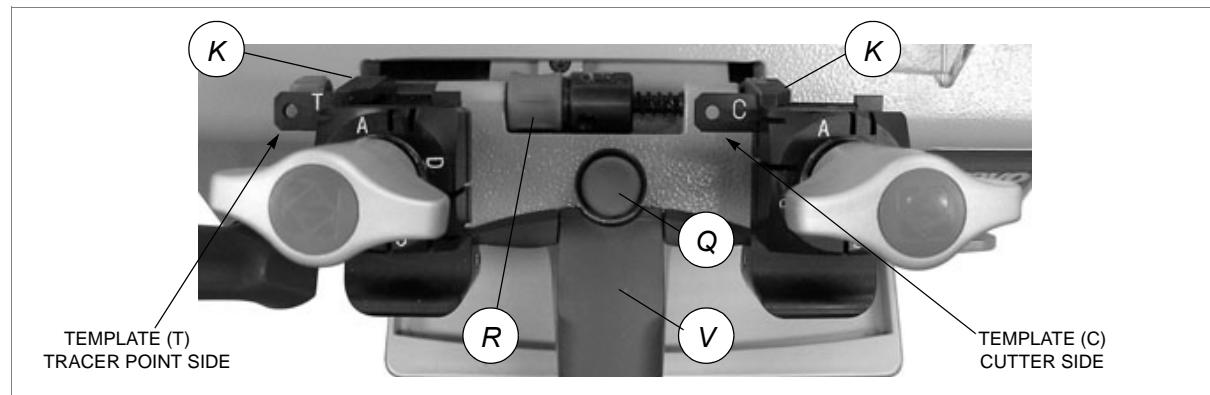

Fig. 13
- 3) Release the carriage by lowering the knob (V) and pressing the push button (Q) right down (fig.13).
- 1) Turn off the master switch (C) to operate safely and prevent activation of the cutting tool.
- 2) Position the electric contact templates on the clamps (fig. 13, page 14) and proceed as follows:
- a) ensure that the keys adhere to the clamps and that the callipers (K) are in full contact with the stops.
- b) to take the callipers into contact with the keys, rotate the drum (R) towards you (away from you to return to the ideal position).